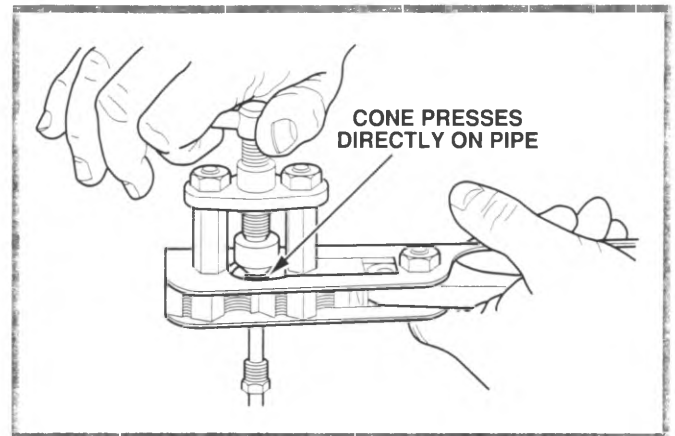

Figure 4-22, **Second Flare**
10. Swing strap back into position, then tighten compression screw to complete the double-lap flare (figure 4-22).